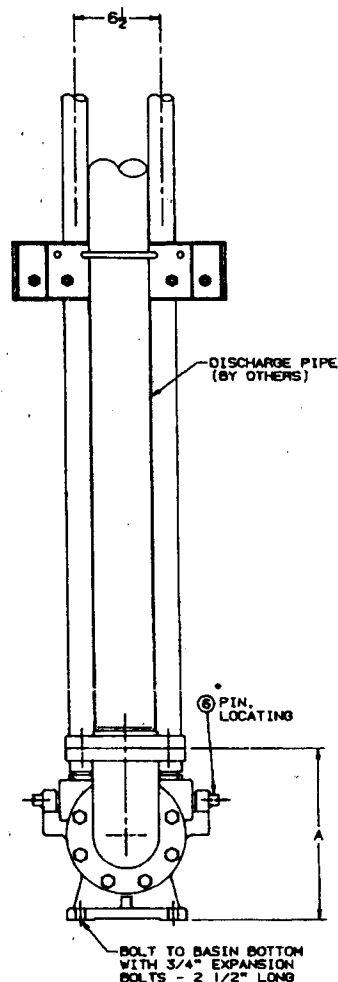

FIG. 2
## **INSTALLING RAIL SYSTEM PARTS (Fig. 2)**
1. Remove guide rails, Figure 2, and cut a piece from each one. These pipes must be exactly the same length and of a length that will permit installing the intermediate guide bracket in the desired location.
2. A hook is located on the top rail support, fig. 2, to hold the upper end of the chain when not in use.